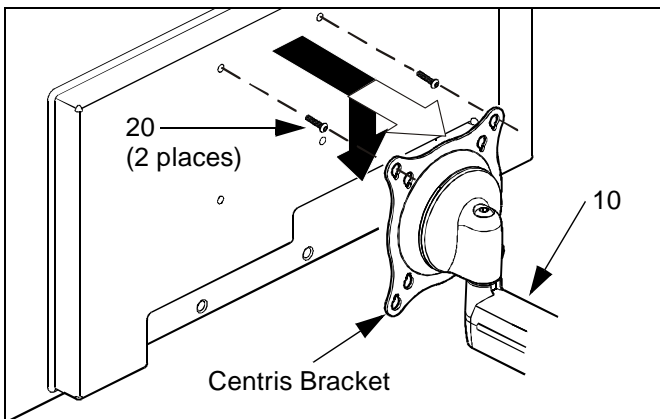

Figure 11: Single Display - Flush Mount
3. Using Phillips screwdriver, carefully install two screws (20) into the *upper* mounting holes on the display. Thread screws completely into display, then back out 3 complete turns.
4. Pick up and align display so that screws (20) (installed on the back of the display in the previous step) fit into the mounting holes on the Centris bracket; rotate the bracket as required (See Figure 11). Lower the display firmly into place.